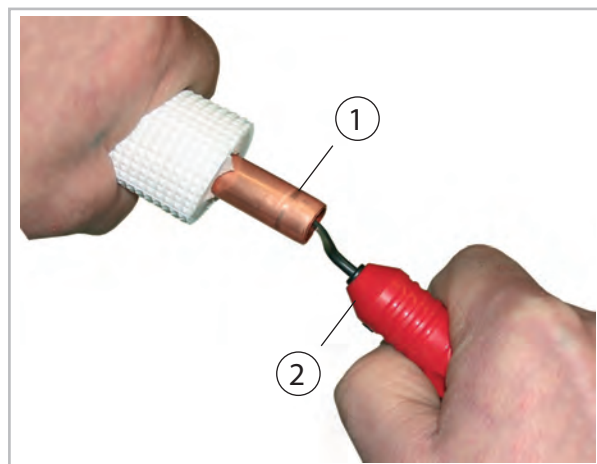
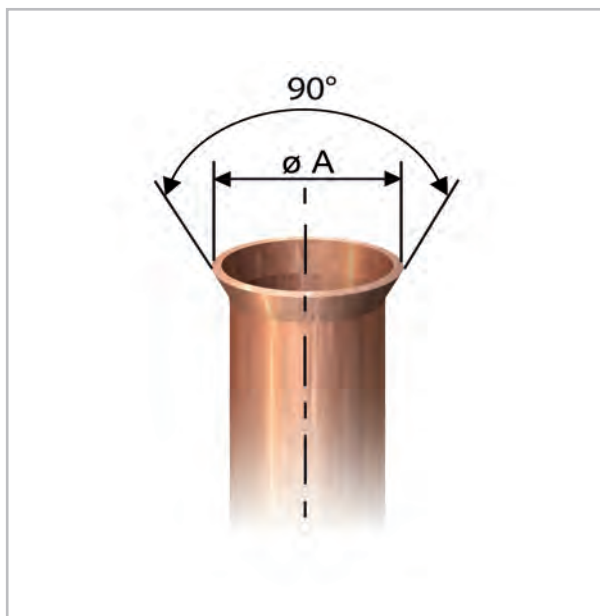

Fig. 76: Deburring the refrigerant line
Fig. 78: Correct flange shape
- The copper pipes are to be flared to make the connections to the units. In doing so, check that the flare has the correct shape and suitable union nuts. (Fig. 76 to Fig. 78).